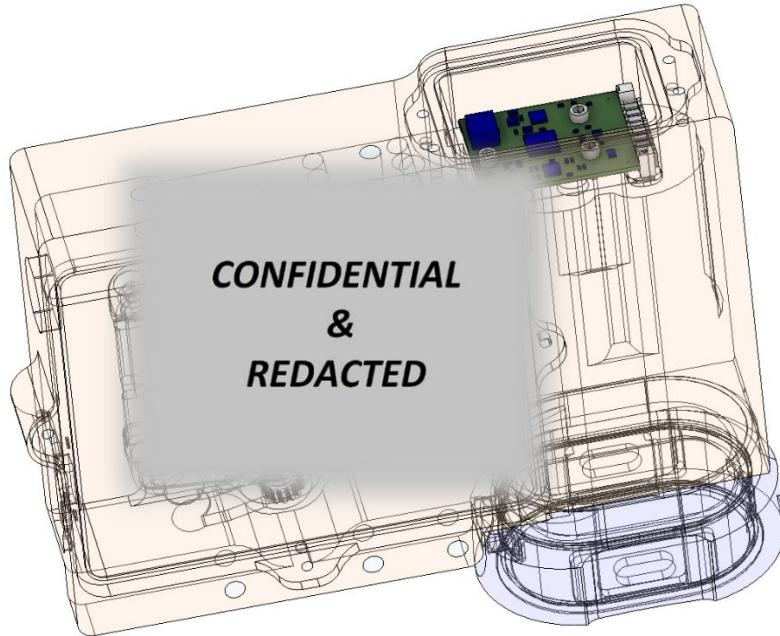
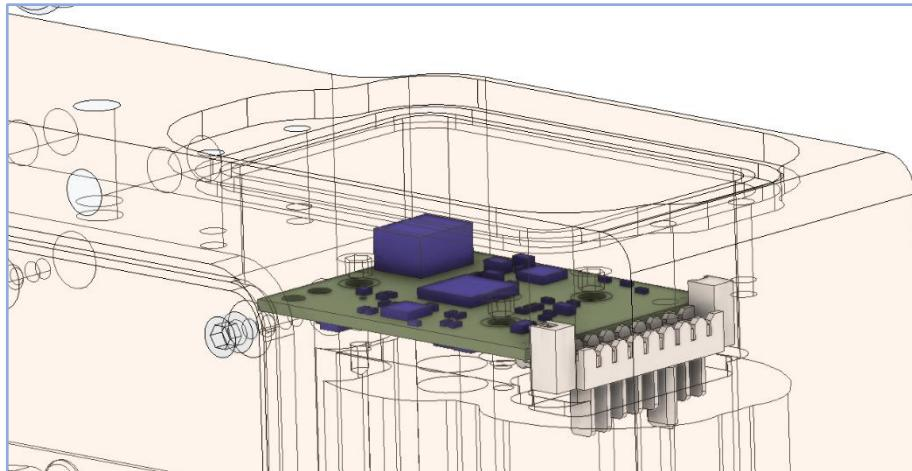

Figure 6 - Battery Board in Body (DWG)
Figure 7 - Battery Board (0000000-00),
- 9.2.2 **INSERT BATTERY BOARD TO BODY.** Insert the battery board in the opening in the body as seen in Figure 6. Orient the battery board so that (A) the pin connector is on the 'outside' side of the body and (B) the female end of the connector faces down into the body as seen in Figure 7. Do not fasten the board down with screws yet.